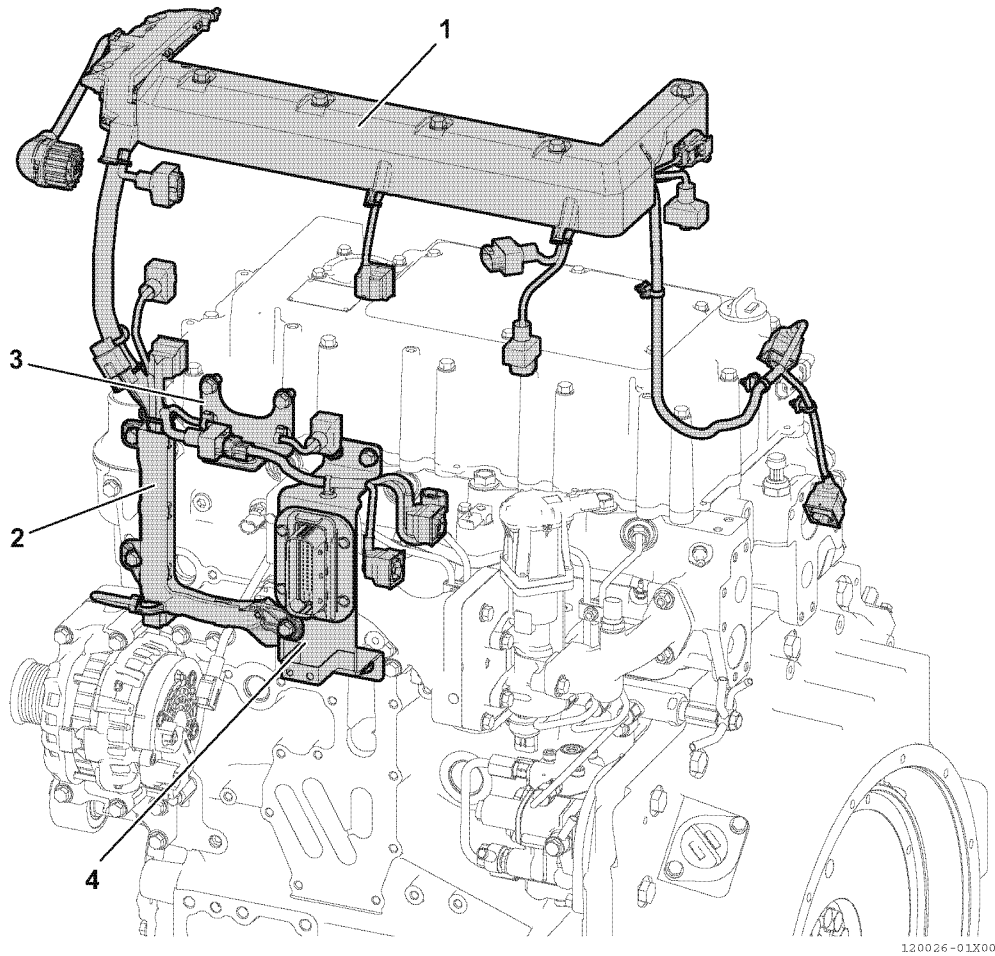

Fig.70-16
4. Remove the harness assembly together with the harness cover (bonnet) (1, Fig.70-16), harness cover (block) (2, Fig.70-16), harness clip bracket (3, Fig.70-16), and relay connector bracket (4, Fig.70-16).